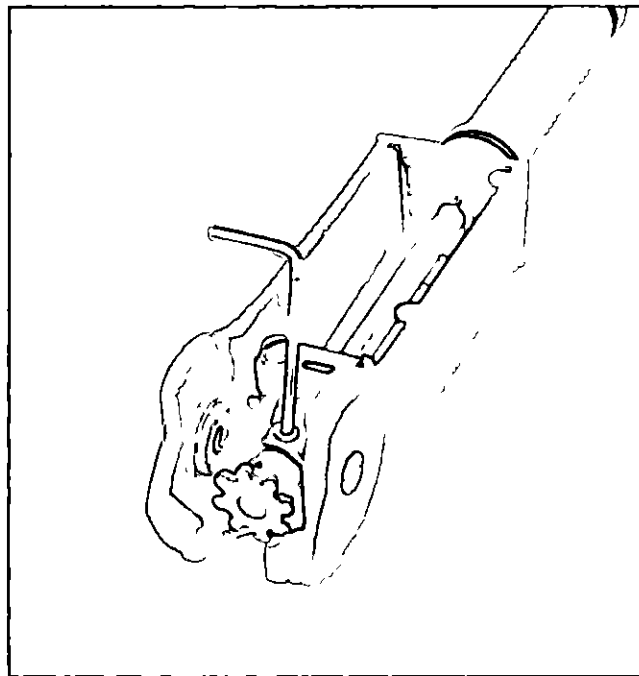

Figure 4 Loosening Set Screw
- A Loosen set screw on steering handle shaft retainer Figure 4
- B Remove two (2) screws and lockwashers securing steering handle bearing and wedge Remove bearing and wedge